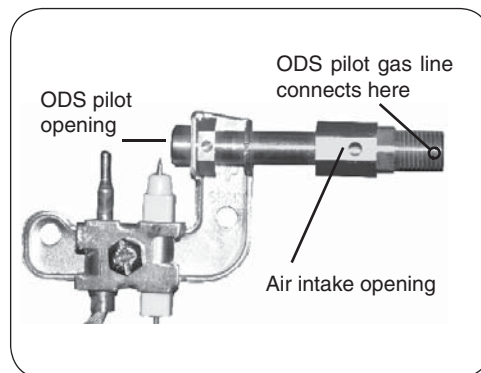

Fig. 23-1
1. Turn the unvented gas log set to the OFF position and allow it to cool. Inspect the ODS pilot area (see Fig. 23-1) for any visual contamination or debris (usually lint, hair, spider webs, or small insects). Lightly brush off all external surfaces while vacuuming loosened debris from the ODS pilot opening. **Be careful not to brush any foreign material into the ODS pilot opening.**
2. Clean out the air intake opening (see Fig. 23-1) by lightly brushing around the opening while vacuuming.
4. If the ODS pilot flame does not burn as indicated in the instructions, extinguish the ODS pilot by turning the valve to the full **OFF** position. Using a compressed air duster, insert the flexible nozzle through the air intake opening, ensuring that the nozzle is pointed toward the ODS pilot opening (see Fig. 23-1). Blow air through the intake opening to clear out any debris that may be in the system.
5. Relight the ODS pilot and inspect it to be sure it is burning as shown in the instructions. If not, extinguish the ODS pilot and **turn off the gas supply to the gas log set.** Using an adjustable or a 1/4" wrench, disconnect the ODS pilot gas line (see Fig. 23-1) from the valve.